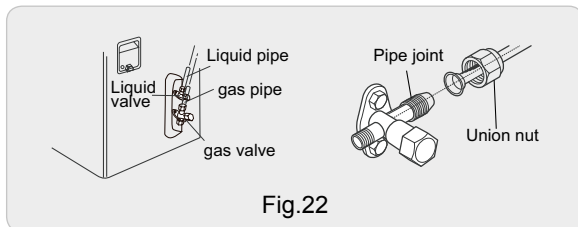

Fig.22
(2) Remove the screw cap of valve and aim the pipe joint at the bellmouth of pipe. (As show in Fig.22)